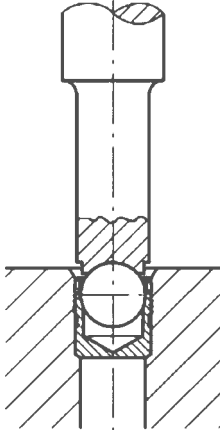

Fig. 2
- / The ball can now be pressed in until the top of the ball is below the edge of the sleeve (Fig. 2 and 3). Corresponding approximate values for stroke S as well as the dimensions X are from the table below.